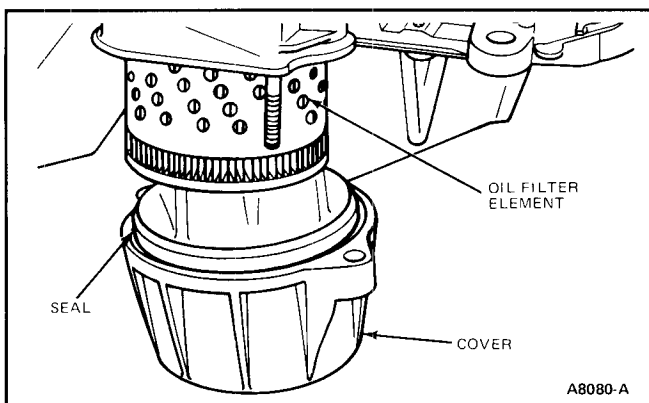

FIG. 49 Oil Filter Cover and Element
- Remove nuts attaching oil filter cover and remove cover and filter element (Fig. 49).
- Install oil filter element and cover (Fig. 49). Tighten bolts to 21-25 N·m (15-18 lb-ft).
4. Remove oil filter element and cover (Fig. 49) as outlined.